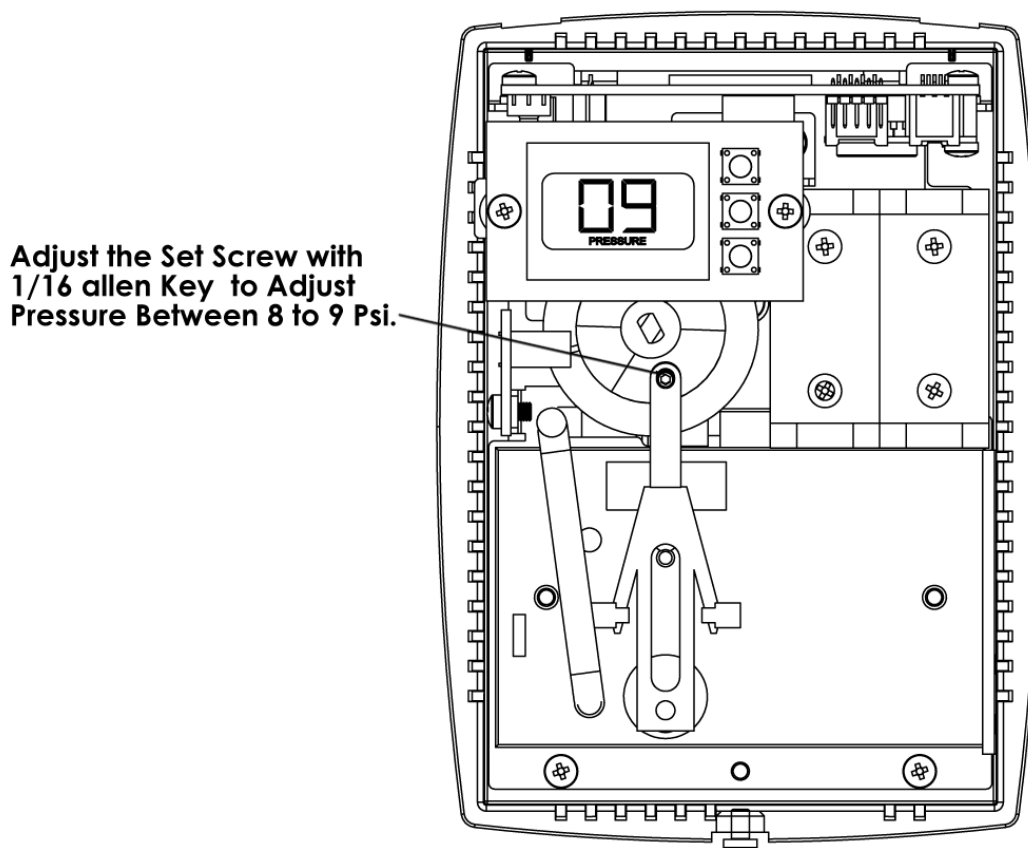

Figure 8- Calibration Set Screw
5. Use a 1/16" hex Allen wrench and turn the calibration set screw on the thermostat lever as shown in figure 8, until the desired pressure is achieved.